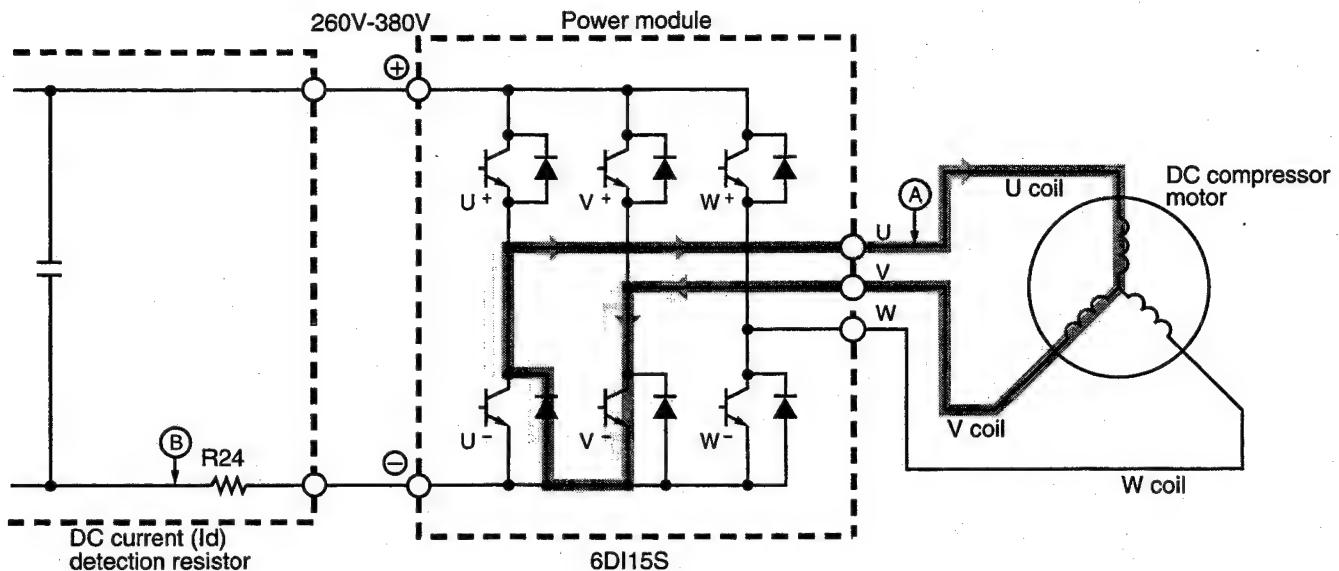

Fig. 3-4 Power module circuit (U+ is ON, V- is ON)
At point F:  $U^+$  is chopped (OFF),  $V^-$  is ON (circuit in Fig. 3-4)
When  $U^+$  transistor is OFF: (by inductance of motor coil) U coil  $\rightarrow$  V coil  $\rightarrow$   $V^-$  transistor  $\rightarrow$  Return diode  $\rightarrow$  Point ⑧ (Fig. 3-4)